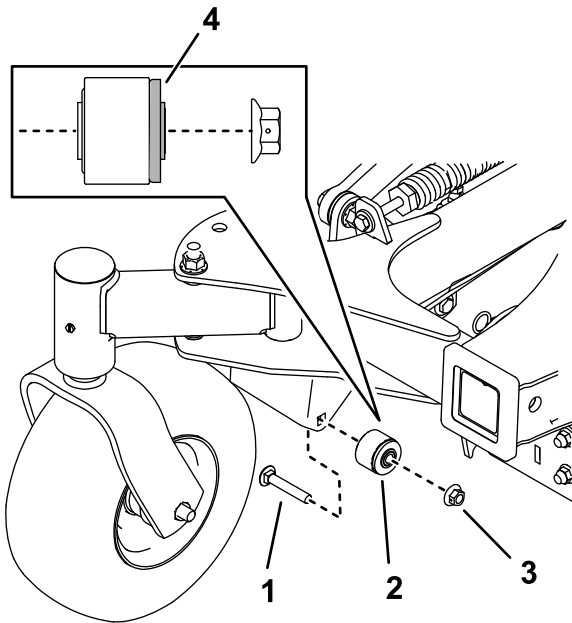

Figure 8
4. Use a carriage bolt (3/8 x 2-1/4 inches) and nut (3/8 inch) to install the bushing assemblies to the machine (Figure 8). Torque the bolt to 37 to 45 N·m (27 to 33 ft-lb).
Note: The rubber flange of the bushing should face toward the inside of the machine as shown in Figure 8.